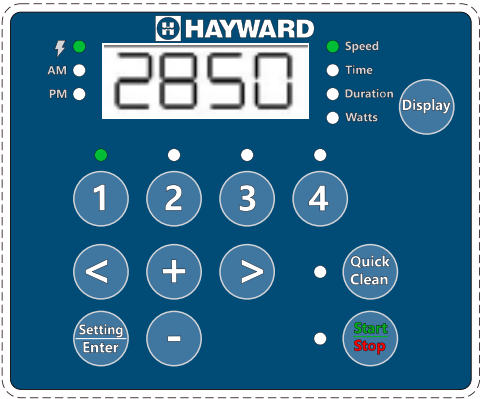

Figure 3
2. Press “1”. The SPEED 1 LED and the “Speed” parameter LED will blink while editing. **See Figure 3.**